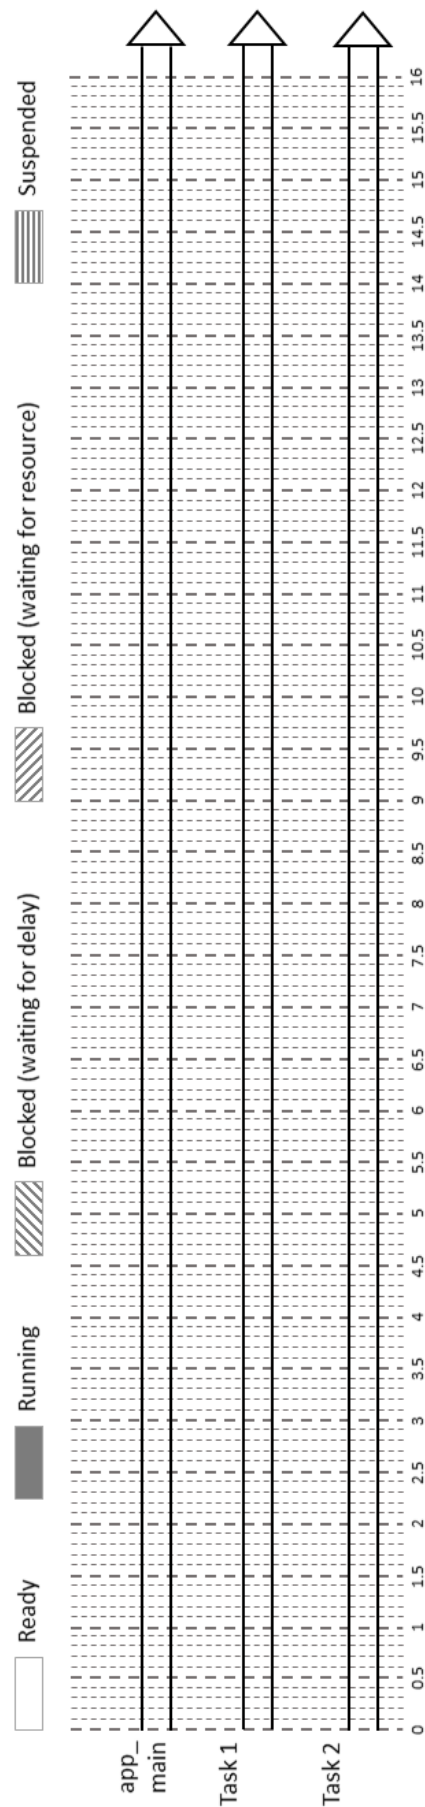

FIGURE 1.3 – Scheduling of 3 tasks with task delay.
19. Trace in the figure 1.3 the behavior of the *app_main()*, *Task 1* and *Task 2* tasks until 160 ticks.